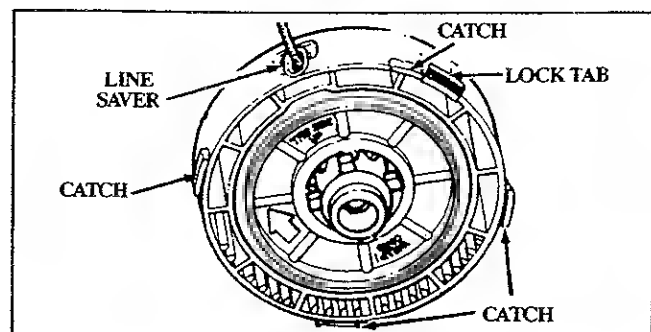

Figure 18
- e. Make sure the line saver is in place and installed correctly, then insert the end of the line in the line saver as shown in Figure 18. Place spool in housing. Press spool down. Turn and lock spool under lugs on drive gear.
- f. Replace the tap button; press lock tab and install the lock ring. Turn the lock ring clockwise  and fasten under all four catches on the housing. Figures 18 & 19.